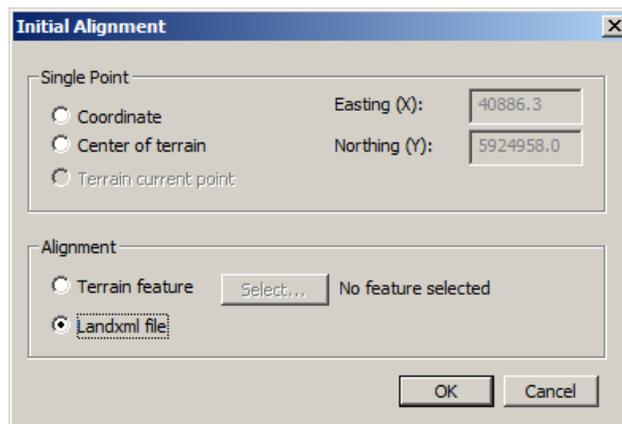

Figure 9: Initial Horizontal Alignment dialog
- When the *Initial Horizontal Alignment dialog* appears (Figure 9 below), choose *Landxml file*.